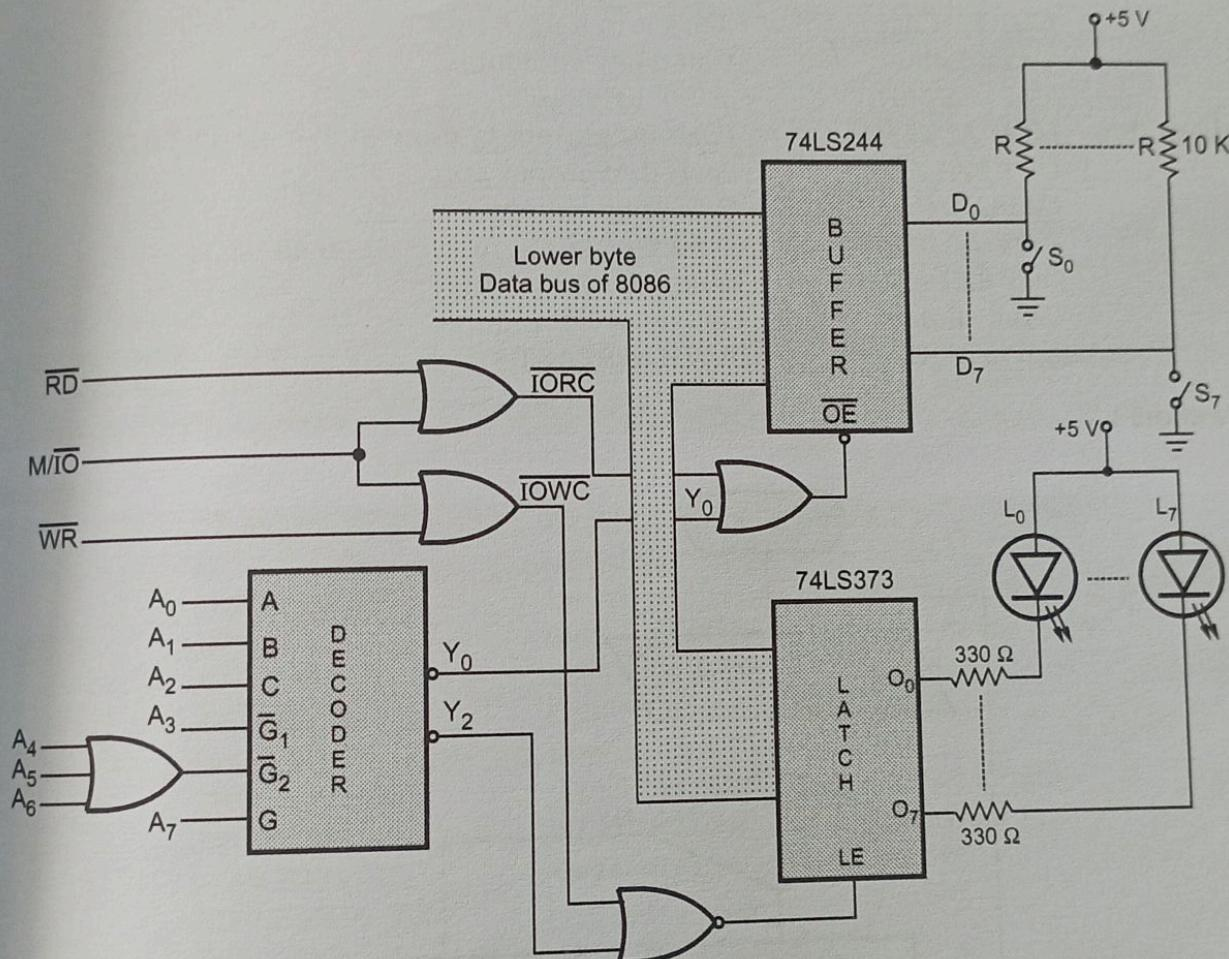

Fig. 3.1.7 I/O interfacing using I/O mapped I/O
- Fig. 3.1.7 shows the combined circuit for I/O interfacing. For this circuit the address of input port is 80H and address of output port is 82H. The following program displays the status of switches on the LEDs.
Example 3.1.2 Refer Fig. 3.1.7 and write a program that will check the switch1 status and do accordingly.